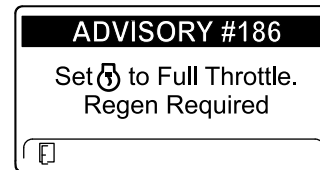

Figure 63
**Note:** If the engine exhaust temperature is too low, the InfoCenter displays ADVISORY #186 (Figure 63) to inform you to set the engine to full throttle (high idle).